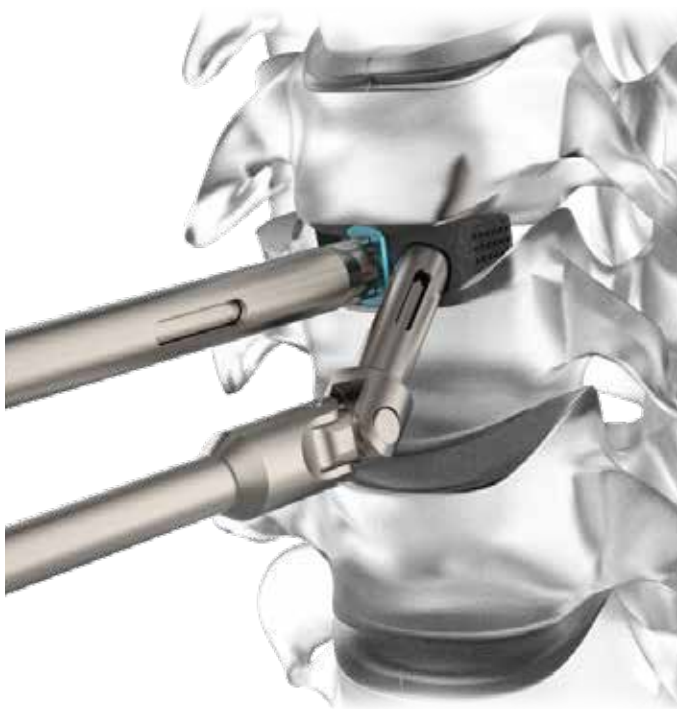

Figure 10
- Begin the pilot hole with the desired hole preparation instrument(s) based on surgeon preference. Penetrate the cortex with the chosen instrument (Figure 10). Repeat for the second pilot hole.